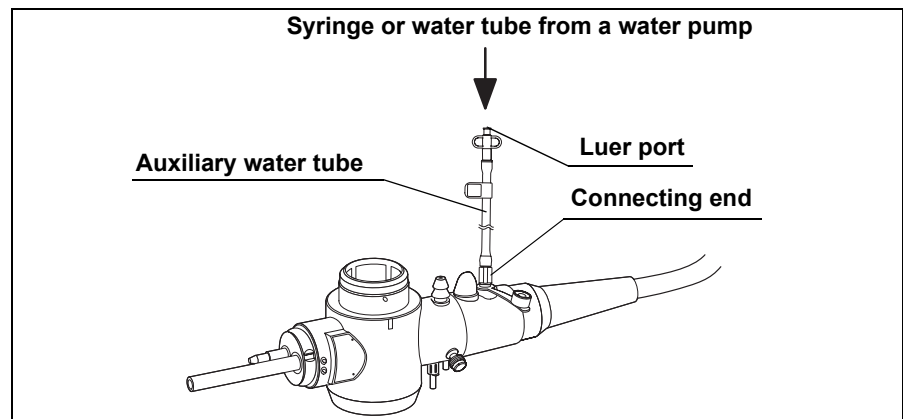

Figure 3.23
1. Attach a syringe containing sterile water or the water tube from a water pump to the luer port of the auxiliary water tube (see Figure 3.23). Feed water and confirm that water is emitted from the auxiliary water channel at the distal end of the insertion tube.